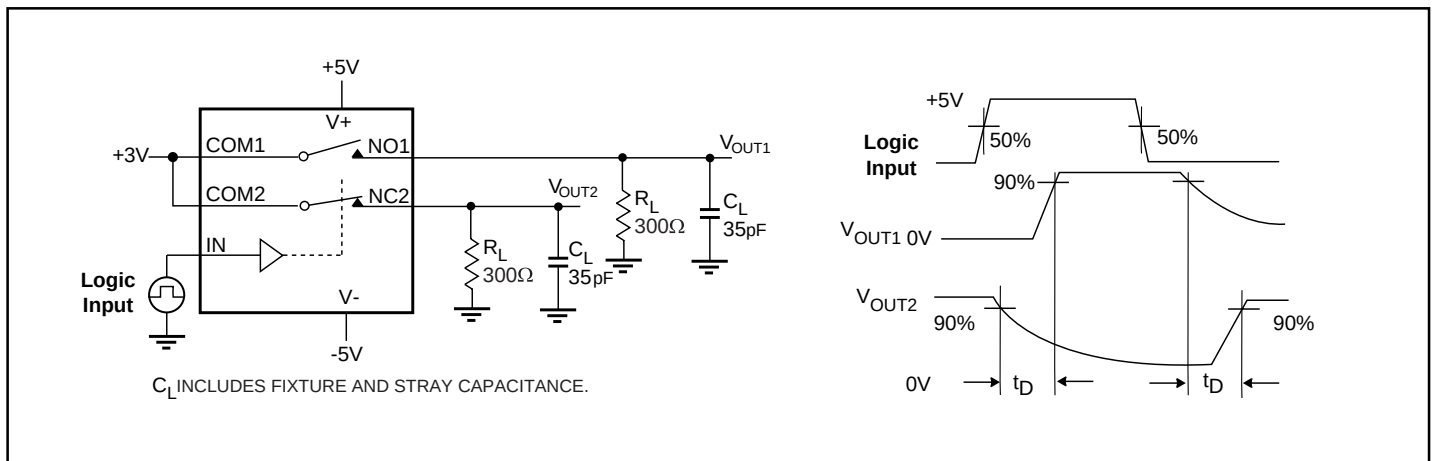

Figure 3. Break-Before-Make Interval (PS322 only)
| Break-Before-Make Time Delay (3) | t D        | PS322 only, R L = 300Ω, C L = 35pF, Figure 3            | 25         | 2                   | 5                   |                     | pC    |